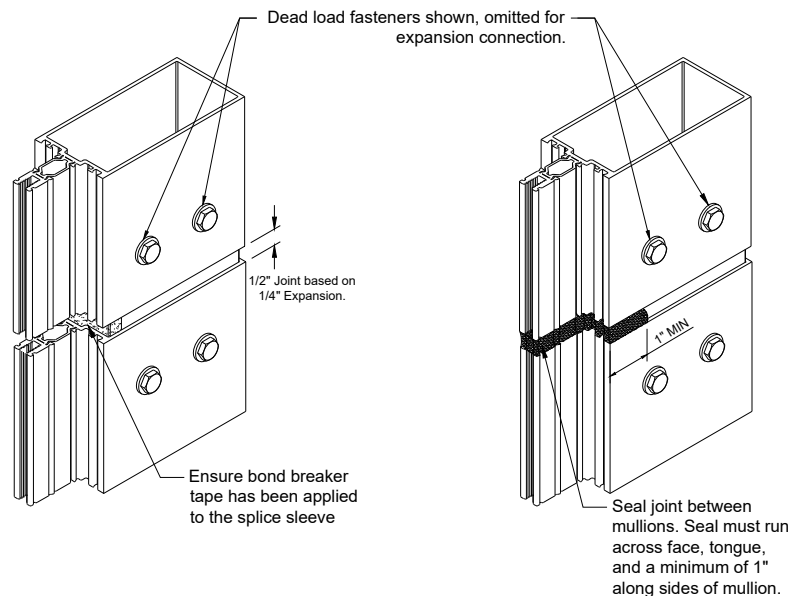

Figure 48: Standard Vertical Splice Joint Sealing
- 16.2 Fully seal joint between Mullion across the face, tongue, and a minimum of 1" along the sides of the mullion joint, see *Figure 48*.